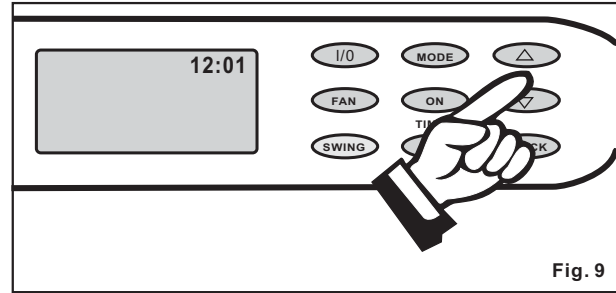

Fig. 9
2) Push either the Δ or ∇ key pad, to enter the correct time of day. Each depression of the key pad will increase or decrease the time of day setting (1 minute increments). Fig. 9.